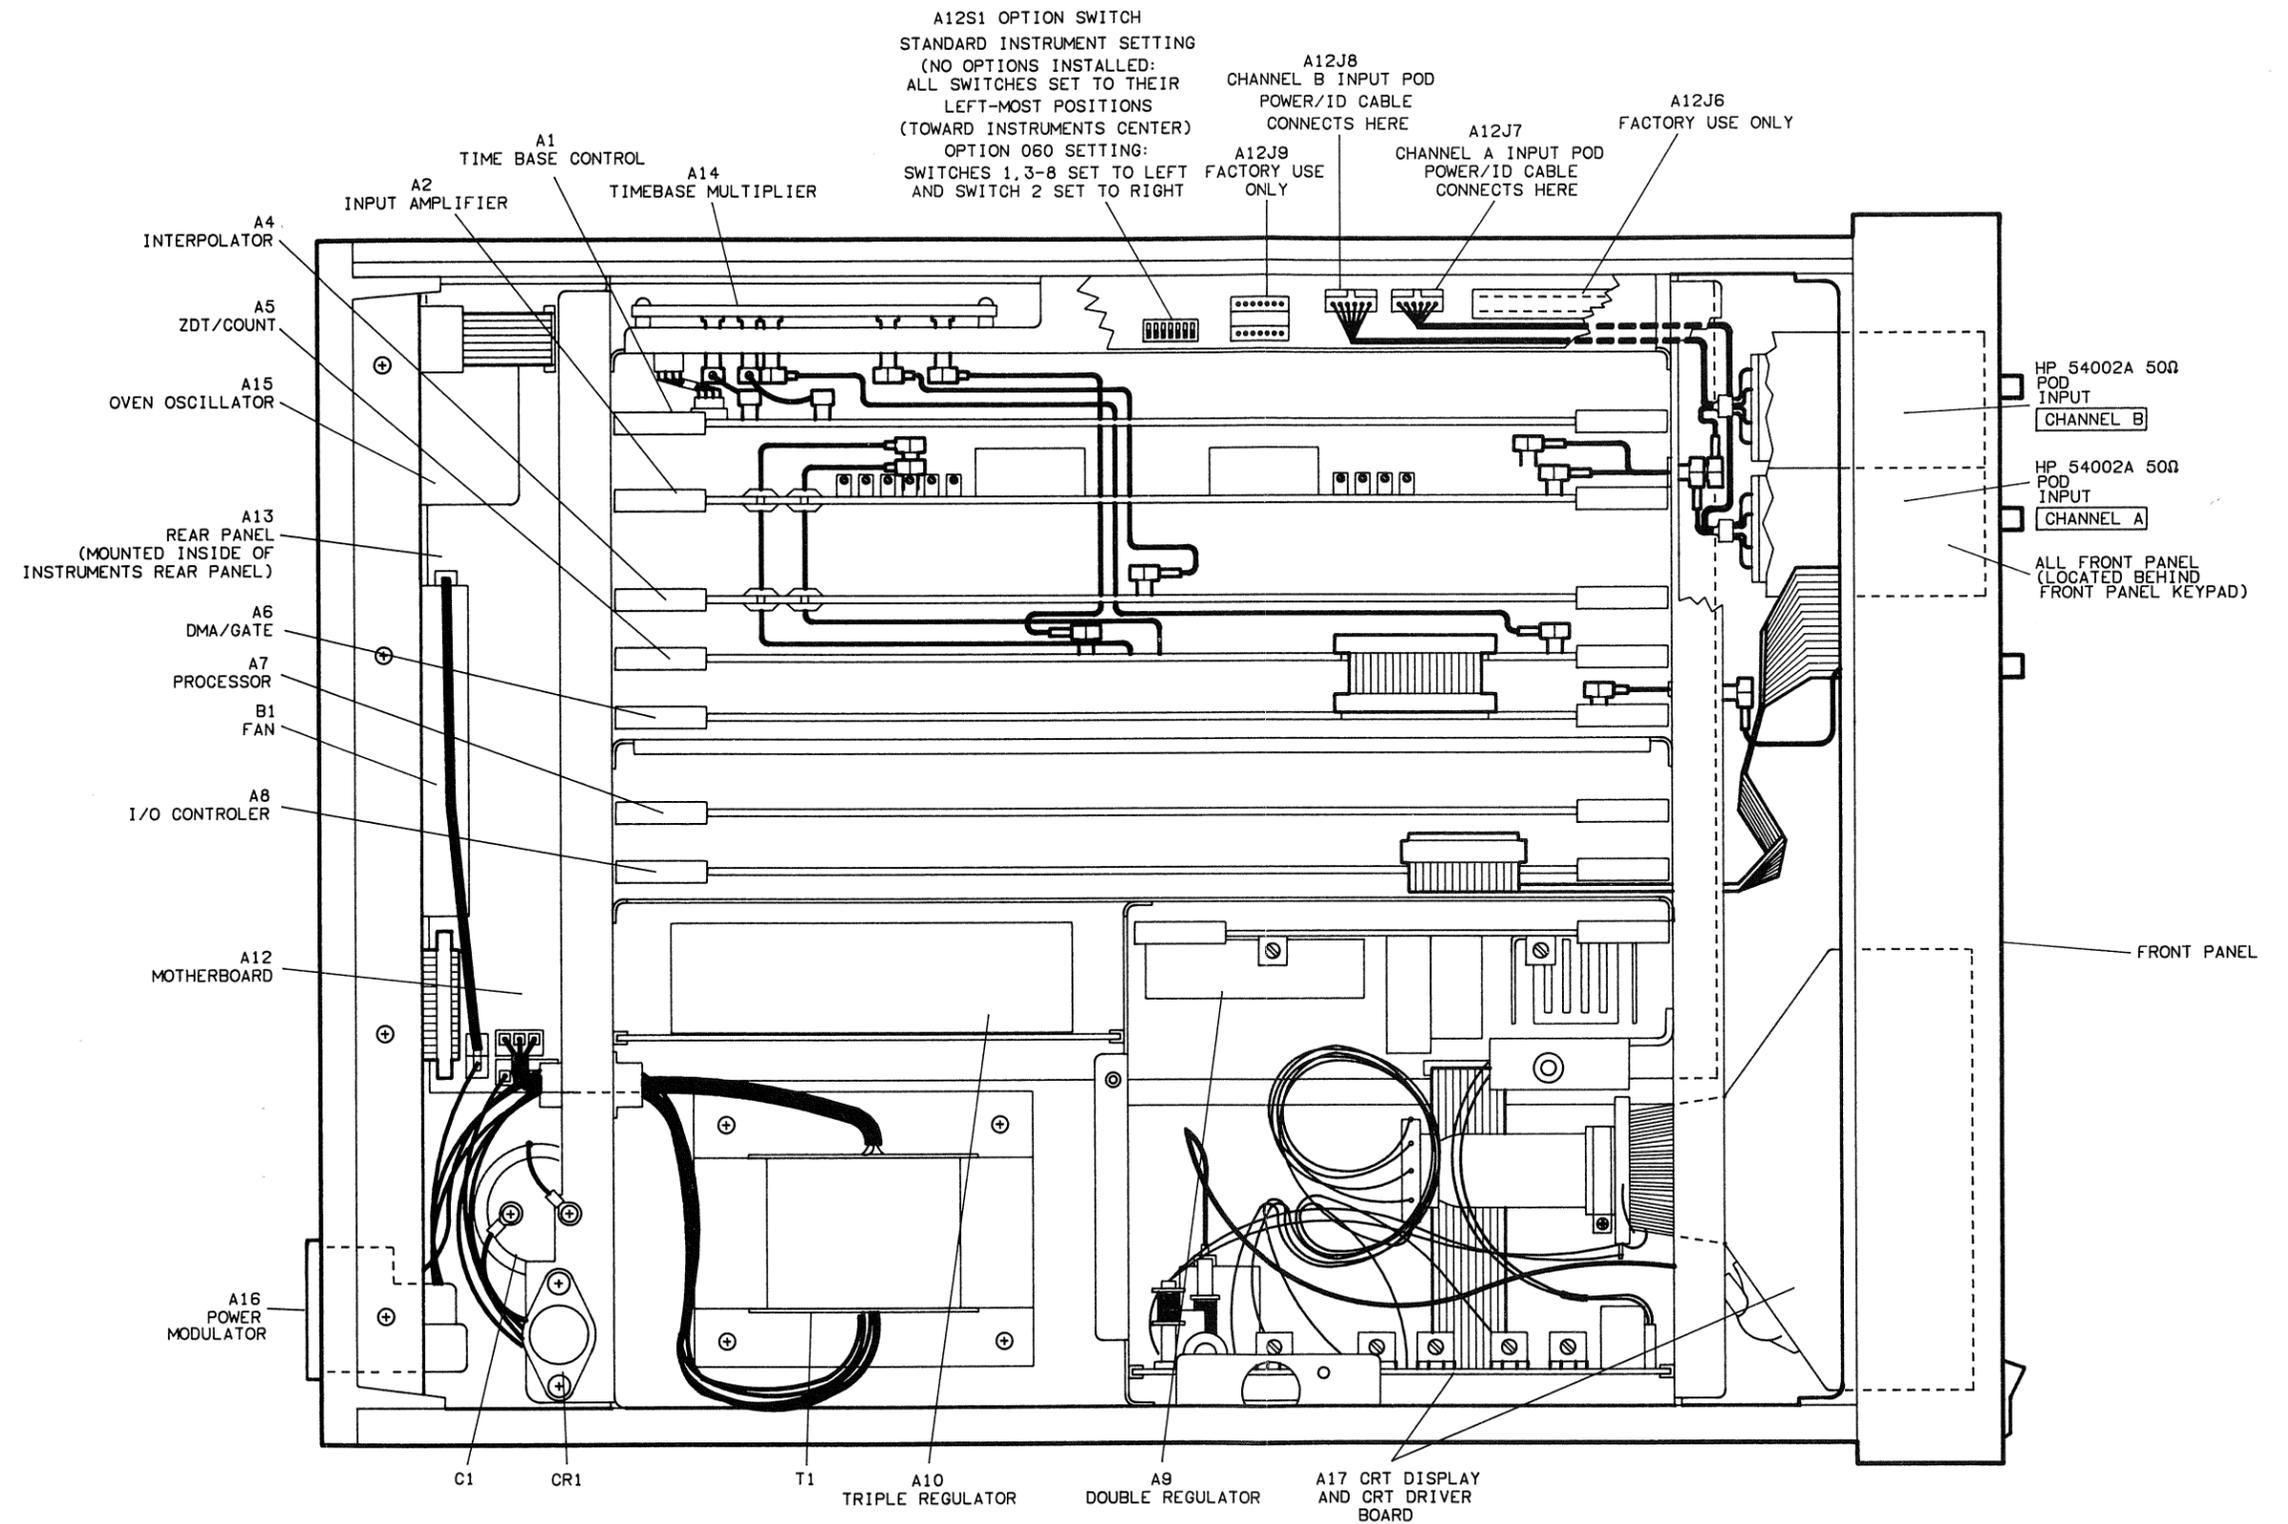

Figure 70-1. HP 5371A Top Internal View showing Assembly Locations
*Figure 70-1* shows the HP 5371A Top Internal View and the locations of the various assemblies.